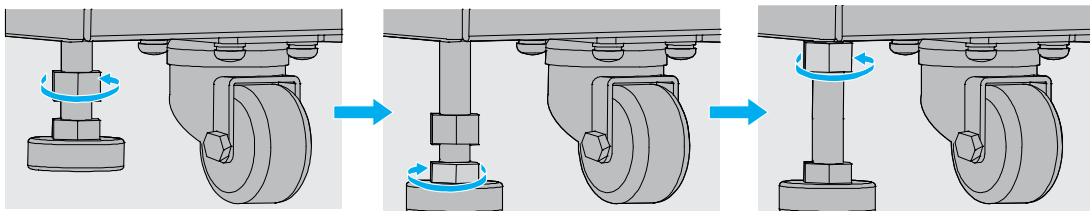

Figure 3-9 Fixing the Bolt
Step 2 Fix the cabinet by tightening the four bolts at the bottom of the cabinet. See Figure 3-9.